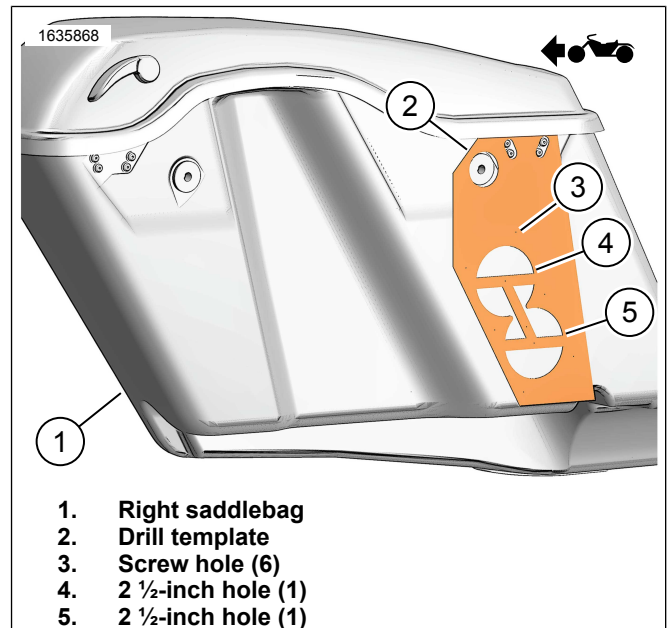
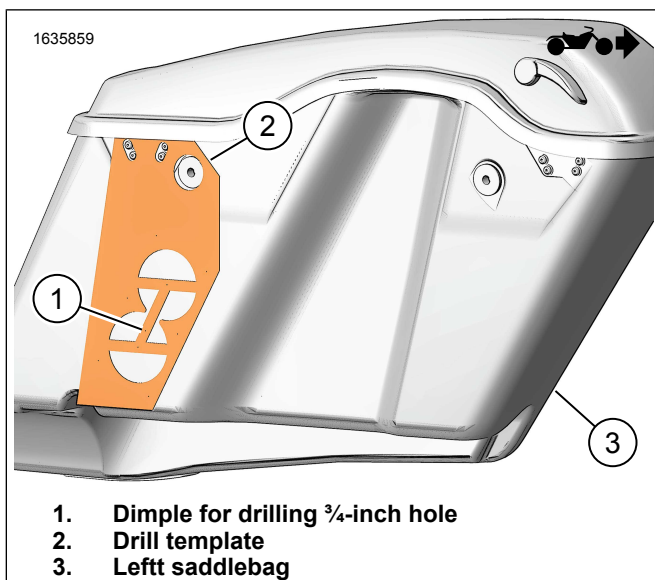
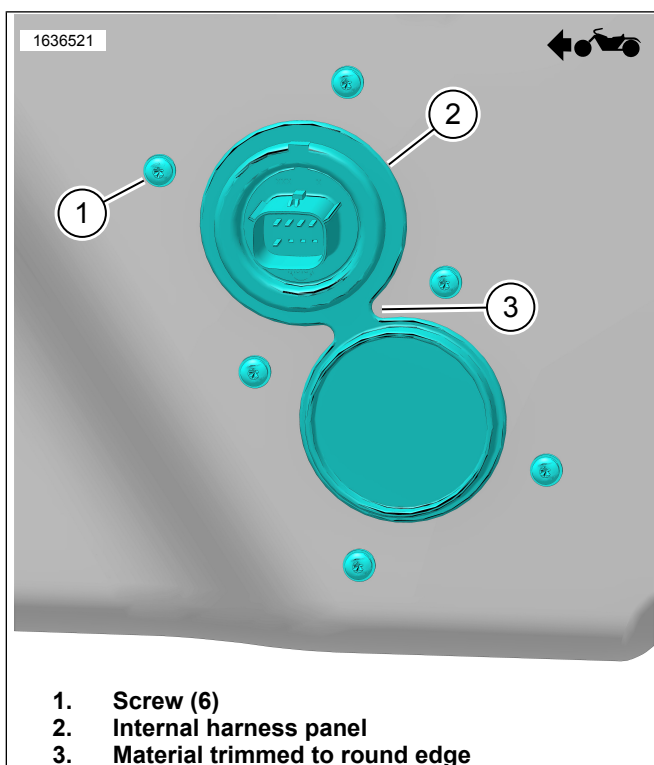

Figure 2. Right Saddlebag
Figure 3. Left Saddlebag
Figure 7. Internal Harness Panel
1. See Figure 2. Position drill template (2) on right saddlebag (1).
2. Modify right saddlebag (1).
- d. See Figure 7. Trim material to round edge (3).
4. See Figure 3. Position drill template (2) on left saddlebag (3).
5. Modify left saddlebag (3).
- a. Center punch drill location (1) on template.
6. See Figure 7. Install internal harness panel (2).